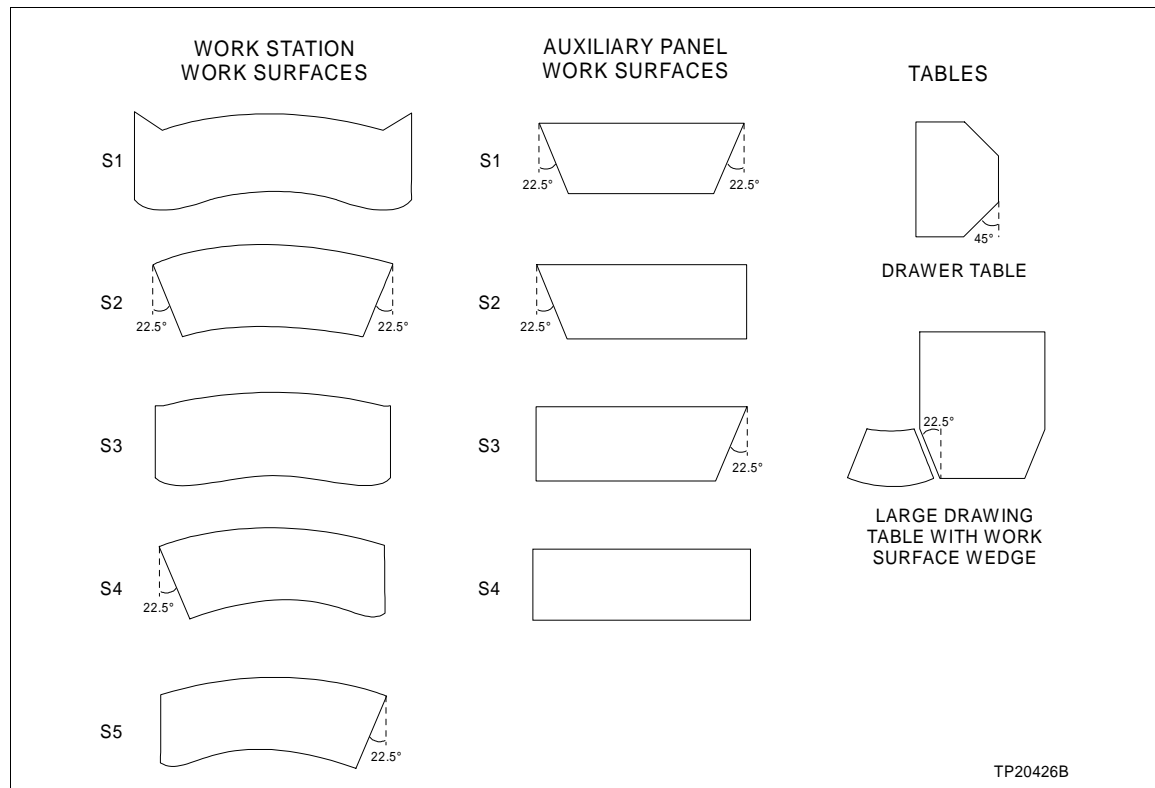

Figure 1-4. Worksurfaces, Tables and Wedges
Work Station Work Surface S1 Extra wide work surface used with the stand-alone work station (Fig. 1-4). Fixed or raised and lowered at the touch of a button using the optional lifting mechanism. Supports a keyboard and trackball. Besides providing a larger writing surface, the extra area is a convenient place for manual storage, etc.
Work Station Work Surfaces S2 Through S5 Curved, single-bay-width and curved, in-line, single-bay-width array work surfaces used with multi-bay work stations (Fig. 1-4). Fixed or raised and lowered at the touch of a button using the optional lifting mechanism. Support keyboards and trackballs.
Straight, single-bay-width array work surfaces used in conjunction with the auxiliary panel (Fig. 1-4). Fixed or raised and lowered at the touch of a button using the optional lifting mechanism.
- Work Surface Wedge** Stationary work surface shape (Fig. 1-4). Fills in gaps between work surfaces in certain array configurations.
- Large Drawing Table** Conference table for either end of an array (Fig. 1-4). Accommodates large process drawings as well as multi-personnel meetings. Provides one square meter (10.8 square feet) of flat, horizontal working surface.
- Drawer Table** Table with a set of drawers with a convenient size work surface for paperwork activities (Fig. 1-4). Mounts on either end of an array. Provides two utility drawers beneath a table having approximately 0.5 square meters (5.4 square feet) of flat, horizontal working surface.